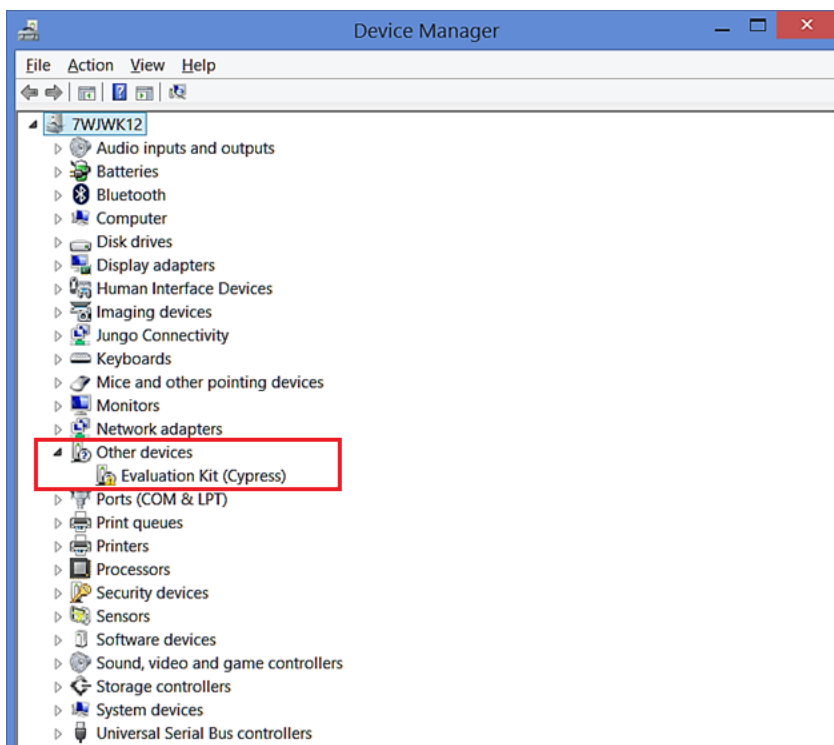

Figure 14. Device Manager View
- Open the Device Manager where you should find the "Evaluation Kit (Cypress)" (Figure 14)